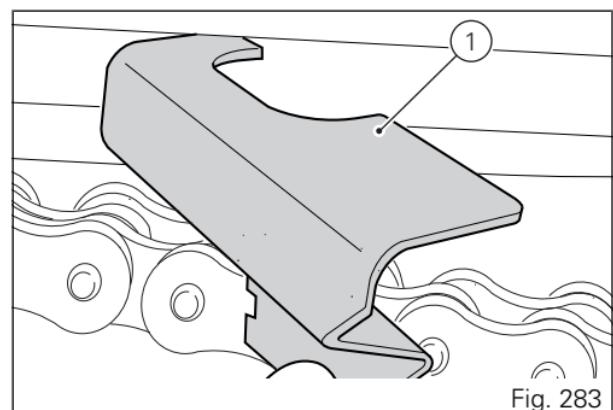

Fig. 283
Chain tension gauge (1) must be inserted between swinging arm and lower chain sliding shoe, at the chain sliding shoe central fastening point (Fig. 283).